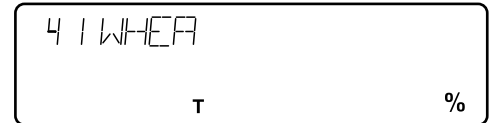

Figure 2
(2) After 4 seconds, the product number (01~99) and the product name (4 characters), "T" and "%" indicators will be displayed. (Figure2)